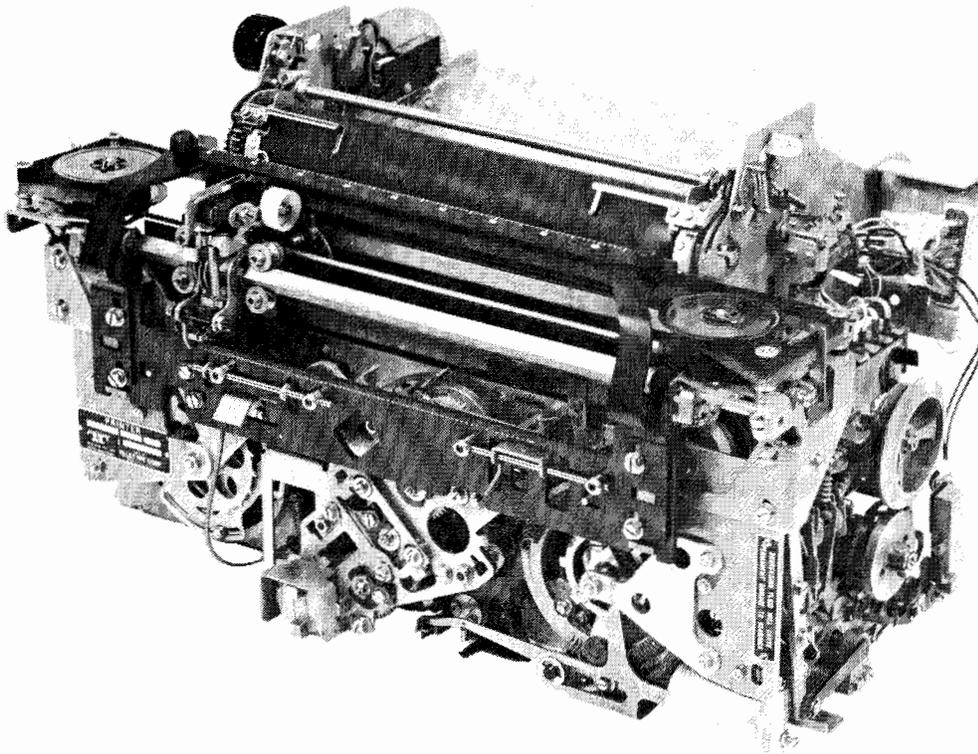

Figure 4 - Typing Unit
side frame, and at the same time grasp the right side print position scale support (Figures 4 and 7). Lift the typing unit straight up away from the base. Set the typing unit aside in a protected area.
(2) Pivot the control panel forward to provide more space for replacing the typing unit. Grasp the typing unit under the curve at the top rear of the left side frame, and at the same time grasp the right side print position scale support (Figures 4 and 7). Raise the typing unit and position it directly over the base. Tilt the typing unit slightly forward from a normal level. Carefully lower the typing unit onto the locating studs and tilt back to engage the intermediate gear assembly. Make certain that the main shaft driven gear and the intermediate gear mesh properly. Pivot the control panel back into its regular position; lock and secure in place.
(3) Secure the typing unit to the base with the four typing unit mounting screws, beginning with the left rear screw.